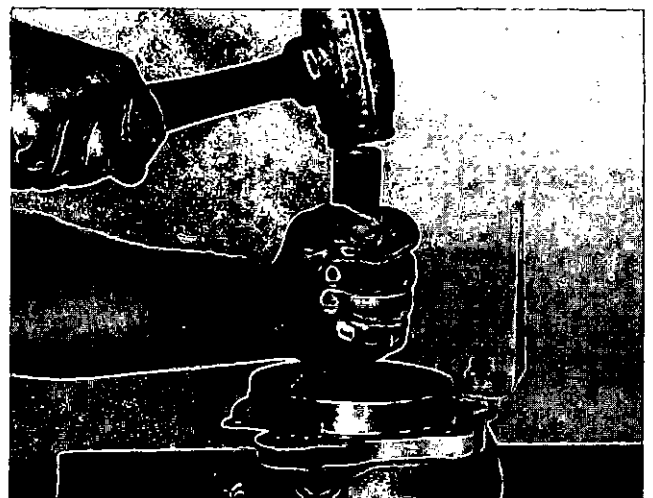

Fig. 7-25. Use The Mandrel To Install The O-Ring.
4. Push the O-ring into the housing. Use the Part No. ST-1218 or ST-1223 Cooler O-Ring Mandrel to push the O-ring into the housing. Hit the mandrel with a plastic hammer until the mandrel is against the element and housing, Fig. 7-25.